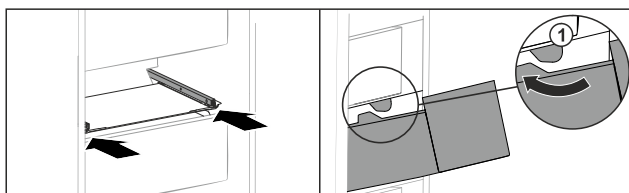

Fig. 146
- Guide drawer around the stoppers Fig. 146 (1).